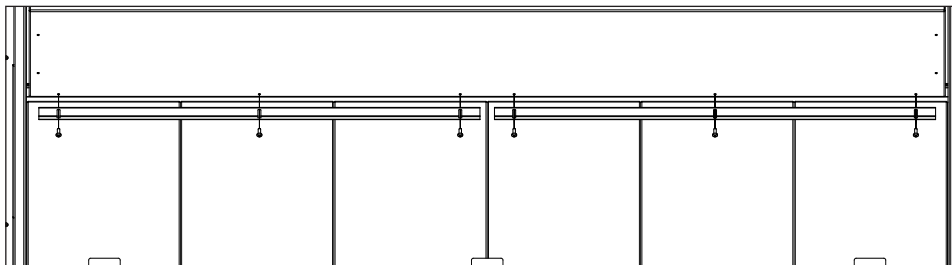

Figure 22: Rear Liner Retainers
1. Remove the rear liner retainers. (Figure 22).